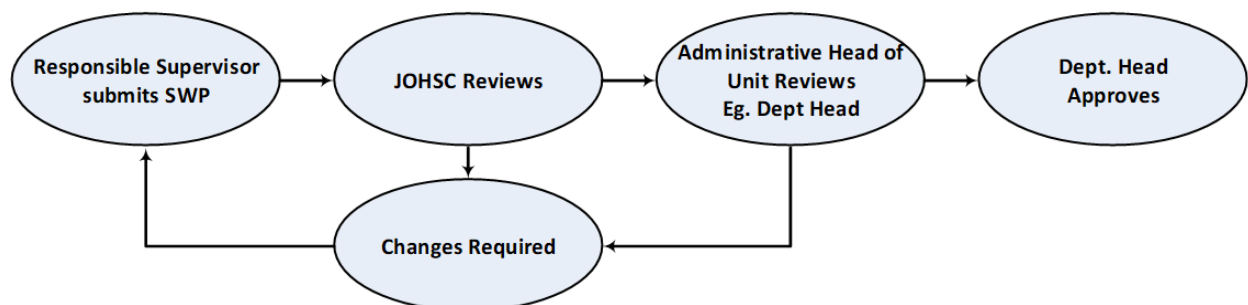

Figure 3: Safe Work Procedure Approval Process
- 8) The SWP will undergo review as per Figure 3. Where the SWP applies to work permitted by a UBC institutional compliance committee (e.g. Biosafety, Radiation Safety, Human Ethics or Animal Care), the SWP must also be reviewed and approved as part of the permissions application before implementation.